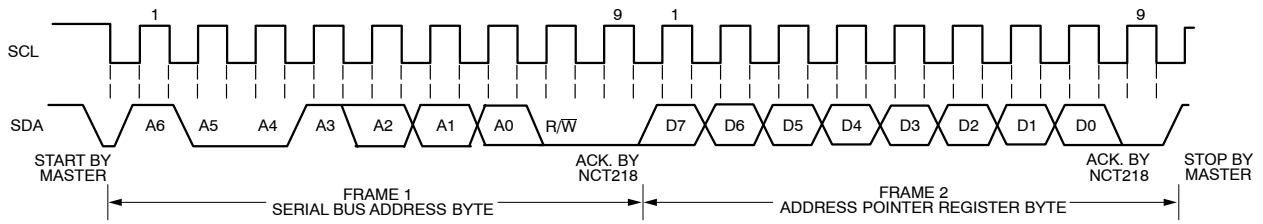

Figure 5. Writing to the Address Pointer Register
This procedure is illustrated in Figure 5. The device address is sent over the bus followed by R/W set to 0. This is followed by two data bytes. The first data byte is the address of the internal data register to be written to, which is stored in the address pointer register. The second data byte is the data to be written to the internal data register.
- If the address pointer register value of the NCT218 is unknown or not the desired value, it is first necessary to set it to the correct value before data can be read from the desired data register. This is done by writing to the NCT218 as before, but only the data byte containing the register read address is sent, because data is not to be written to the register see Figure 5.